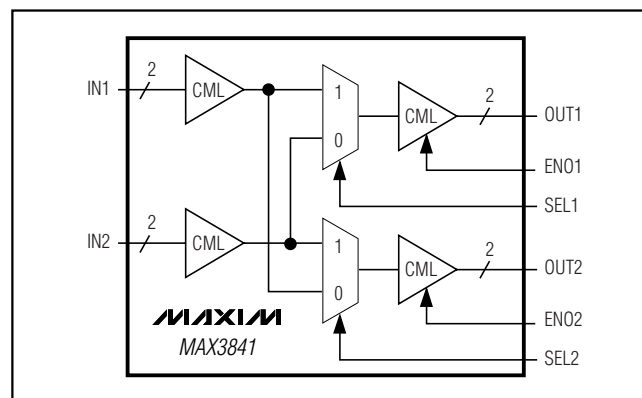

Figure 1. Functional Diagram
**Note 2:** Differential swing is defined as VIN = (IN+) - (IN-) and VOUT = (OUT+) - (OUT-). See Figure 1.
The MAX3841 contains a pair of CML inputs that drive two 2:1 multiplexers, with separate select inputs SEL1 and SEL2, providing a 2 × 2 crosspoint data path. The outputs of the multiplexers each drive a high-performance CML output that can be disabled (powered down) using the ENO1/ENO2 inputs. All of the data paths are fully differential to minimize jitter, crosstalk, and signal skew. See Figure 1 for the functional diagram.